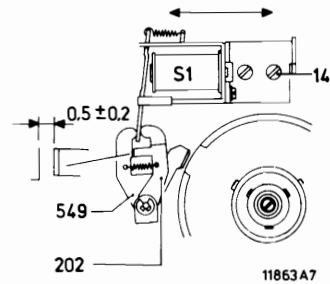

Fig. III-11
- Adjustments can be made by relocating S1 in the direction of the arrow (Fig. III-11), after loosening screws 14 a few turns.